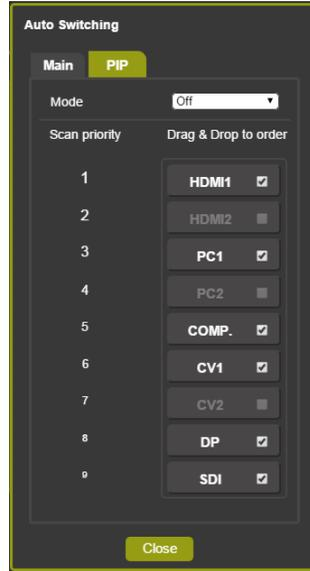

Figure 50: The Routing & Scaling Page – selecting the Inputs to Scan (PiP Tab)
- **Scan** mode to scan through the inputs in search of a valid input signal. In the scan mode you can select which of the inputs will be included in the scan (see Figure 50) and also change the order of the scanned inputs (see Figure 51)